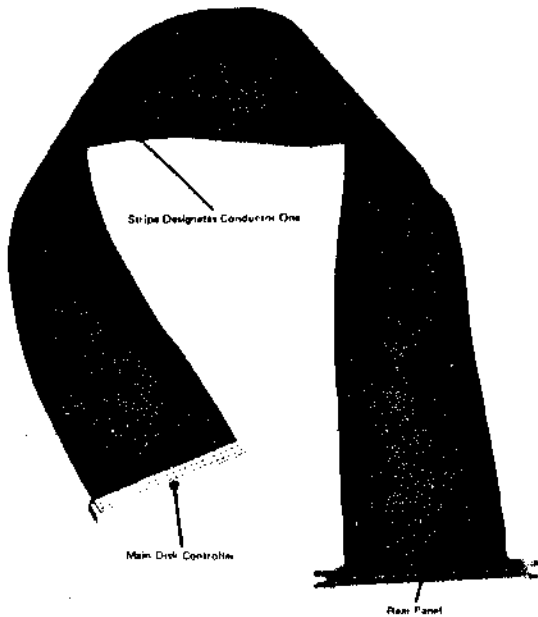

Figure 2-4 – 5100 Disk I/O Cable – 800228
2.08 The data, status and control signals are exchanged between the Main Disk Controller, Auxiliary Disk Controller and diskette drives through flat multi-conductor I/O cables. All appear similar. Figures 2-4 through 2-9 illustrate each.
2.09 *5100 Disk I/O Cable* illustrated in Figure 2-4 interconnects the Main Disk Controller to the 5100 Computer Unit rear panel. This cable extends the Disk I/O signals up to two external Auxiliary Disk Controllers, e.g., 5010 Units. This cable has 50 conductors and is 21 inches long.